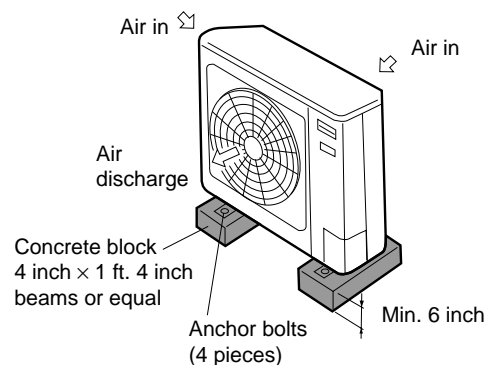

Fig. 2-3
- provide a solid base; about 6 inch above ground level to reduce humidity and possible water damage in the unit and decreased service life. (Fig. 2-3)